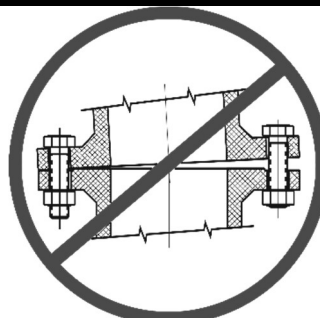

Figure 1
**Warning:** When installing monitor on a raised face companion flange or butterfly valve, it is critical that bolts be tightened uniformly to prevent cocking of the monitor relative to the flange or valve. If the monitor becomes cocked, (see Figure 1) the monitor cast flange base will fracture and fail when the bolts on the "high" side are tightened.